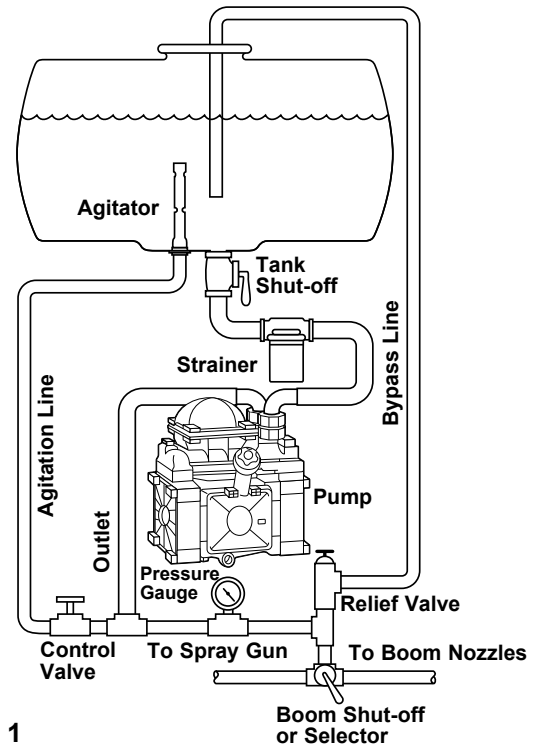

Figure 1
1. Always mount pump with oil sight tube in upright position (See Figure 1).